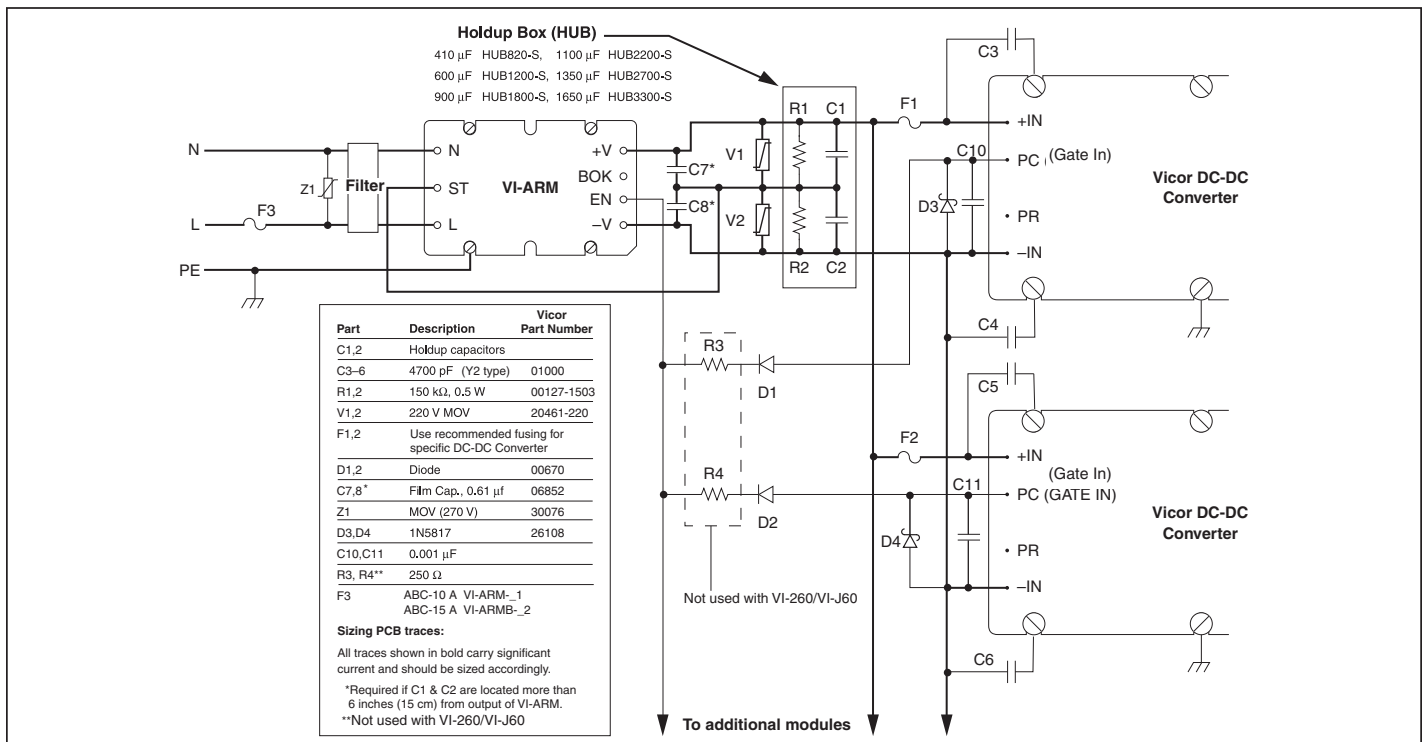

Figure 10 — Converter connections
**Strap (ST) Pin.** In addition to input and output power pin connections, it is necessary to connect the Strap pin to the junction of the series holdup capacitors (C1, C2, Fig. 10) for proper (autoranging) operation. Varistors across the capacitors provide input transient protection. The bleeder resistors (R1, R2, Fig. 10) discharge the holdup capacitors when power is switched off.
It should be noted that the series combination ( $C1$ ,  $C2$ , Fig. 10) requires each capacitor to be twice the calculated value, but the required voltage rating is reduced to 200 V.